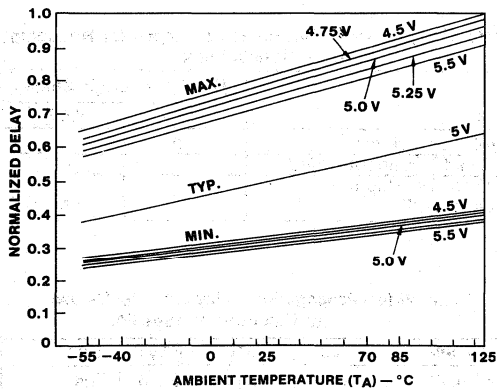

Fig. 27 - Normalized AC/ACT MIN/MAX delay as a function of supply voltage and temperature.
There are two dichotomies: (1) The PCB V_{CC} value is fixed at a given time, probably close to 5.0 volts, and (2) the temperature is fixed at a given time, probably close to 55°C . Thus, the 9.1 to 2.65 nanosecond spread, shown above, is unrealistically large. To ease this problem, Fig. 27 is provided. Using this set of normalized delay curves, the system designer can easily narrow the MIN/MAX delay for use in estimating system timing. For the 74 dual D-type flip-flop if operation is assumed at $V_{CC} = 5.0$ volts, and $T_A = 55^\circ\text{C}$, the MIN/MAX delay spread is narrower.
Use of Fig. 27 is as follows:
Each AC/ACT data sheet now contains speed limits at two temperature ranges for commercial/industrial plastic packaged product. These ranges are -40°C to $+85^\circ\text{C}$ and -55°C to $+125^\circ\text{C}$. The latter temperature range limits are also applicable to MIL product packaged in ceramic packages. Historically, commercial TTL logic types use a limited temperature range for plastic (74 series) of 0°C to $+70^\circ\text{C}$. To readily determine RCA AC/ACT speed for 0°C to $+70^\circ\text{C}$ operation, the following multipliers (from Fig. 27) are used:
Also shown in Fig. 27 is the typical curve of speed vs. temperature for $V_{CC} = 5.0$ volts. The exact value at $T_A = +25^\circ\text{C}$ is 0.487 X.